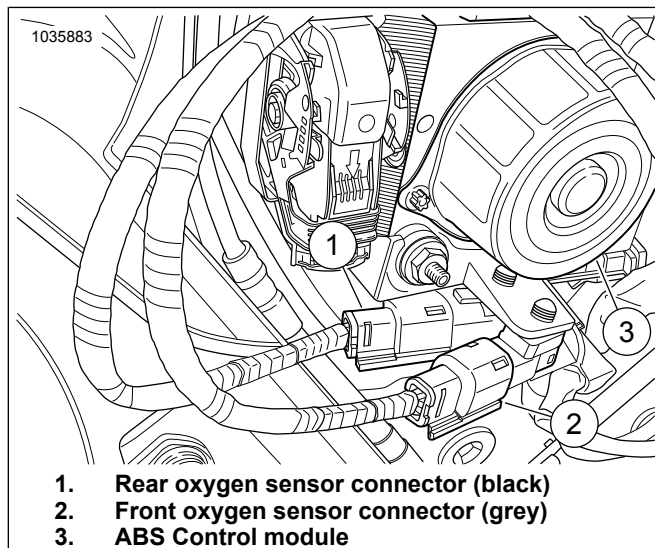

Figure 13. ATM Main Harness Connections
12. See Figure 13 and Figure 8. Route the grey (3) and black (1) connector harness leads out behind the ABS control module (2) and connect to main harness. Color match connectors: black to black and grey to grey.